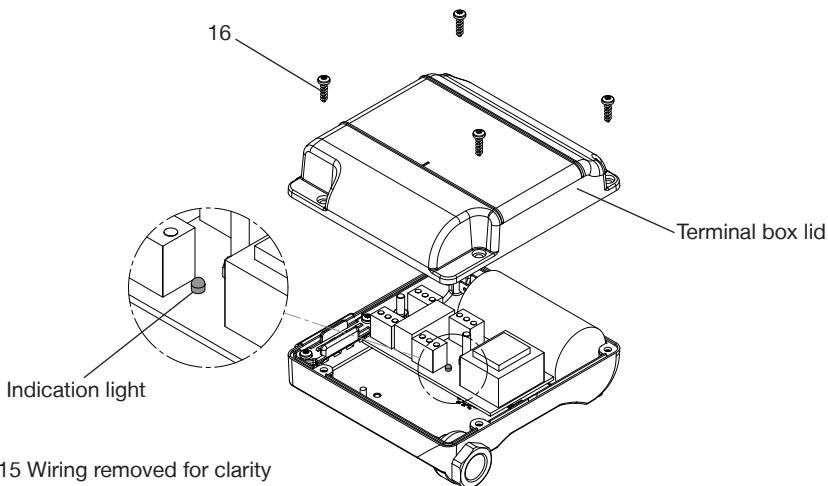

Fig. 15 Wiring removed for clarity
- Remove the four screws (item 16) retaining the terminal box lid (Fig. 15).